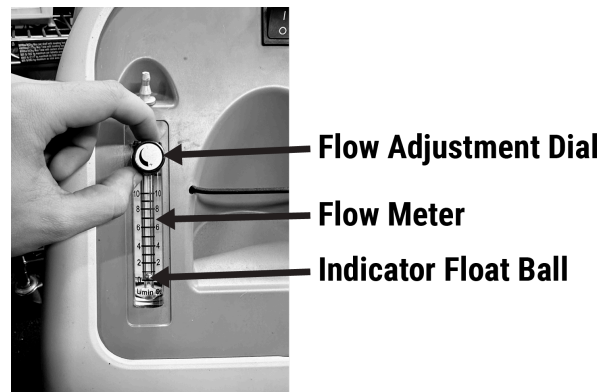

Figure 4.
- With the concentrator powered on, the user can adjust the oxygen flow rate by twisting the Flow Adjustment Dial. (Figure 4)